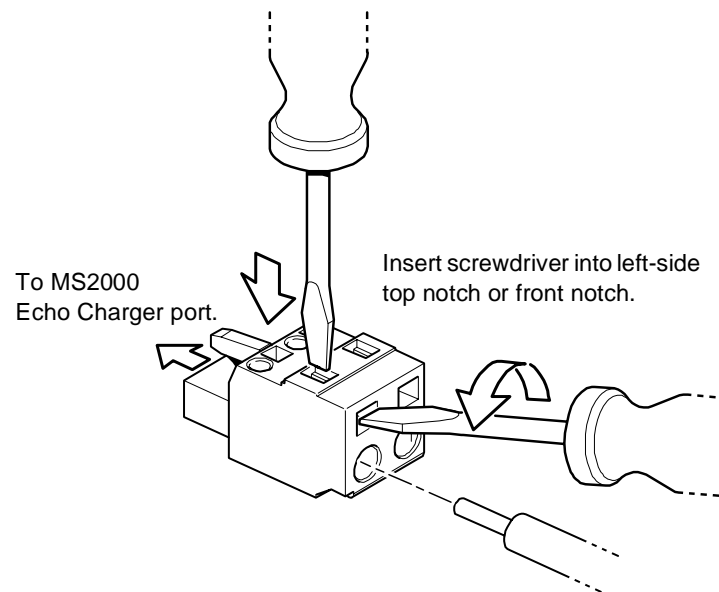

Figure 12 Inserting Cable into the Echo Charger Connector
- Using the slot screwdriver with a 1/8" blade, press down on the tension clip through the slot located at the top of the connector. While pressing down on the tension clip, insert the end of the cable with insulation removed into the left-side round hole at the front of the connector. See Figure 12.